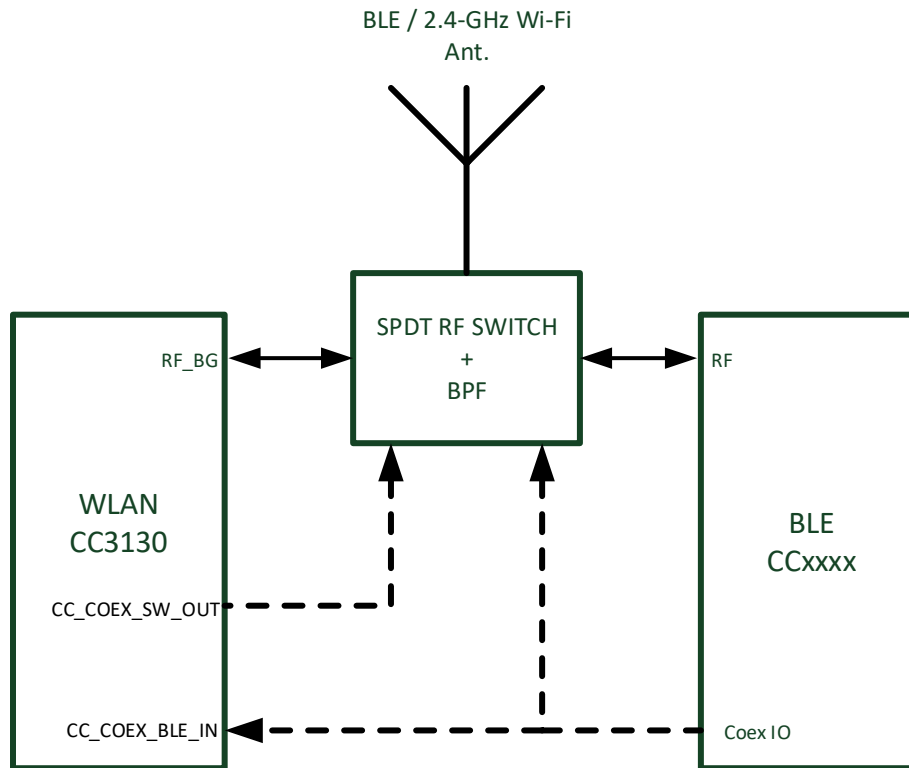

图 10-1. Single-Antenna Coexistence Mode Block Diagram
- In this mode, (see Figure 10-1) the two entities share the antenna through an RF switch using two GPIOs (one input and one output from the WLAN perspective).
图 10-1 shows the single antenna implementation of a complete Bluetooth® low energy and WLAN coexistence network. The Coex switch is controlled by a GPIO signal from the BLE device and a GPIO signal from the CC3130 device.